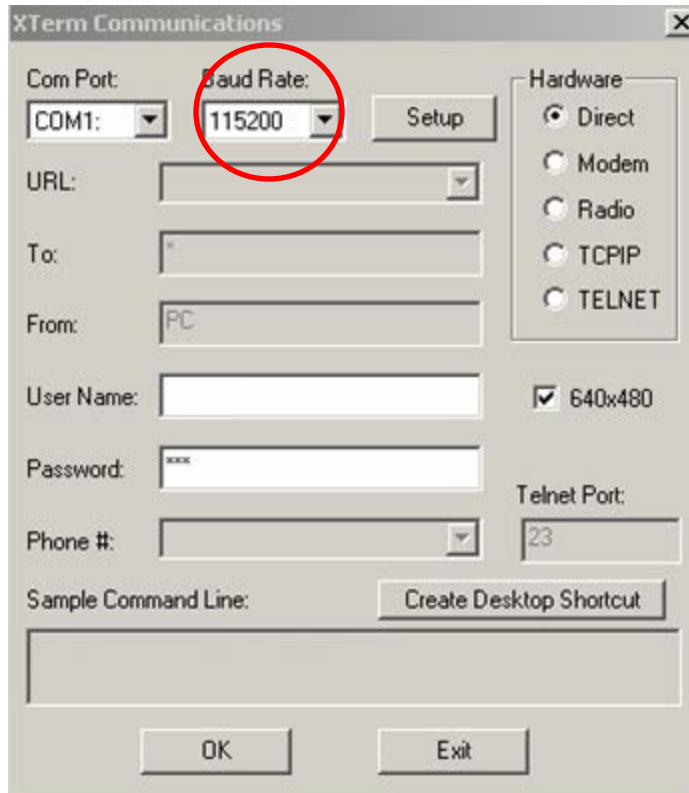

Figure 3-18. Xpert connect screen.
3. Start Xterm software on the laptop (fig. 3-18). You may need to change the **COM** port using the drop-down menu on the upper left corner of the GUI (fig. 3-18). If your computer does not have a serial port, use the Windows **Control Panel** to select the correct **COM** port for the **USB** port that has the serial adapter (procedure will vary depending on the specific setup for the PC being used).